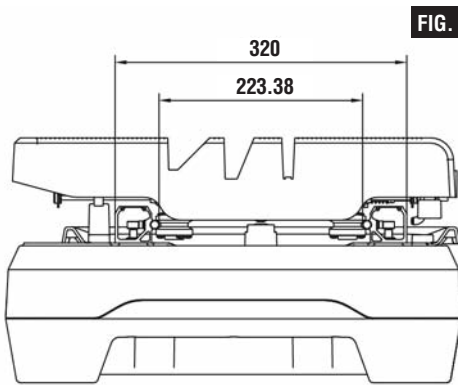

FIG. 25
- Use a slide caliper or straight ruler to measure the distance between the two rails at one end of the rails. Make sure that the distance is 12-5/8" (320mm), and then slightly tighten the screw at that end of each rail. Follow the same procedure at the other ends of the rails to adjust the distance between the rails to 12-5/8" (320mm), and slightly tighten the screw at that end of each rail (Fig. 25).